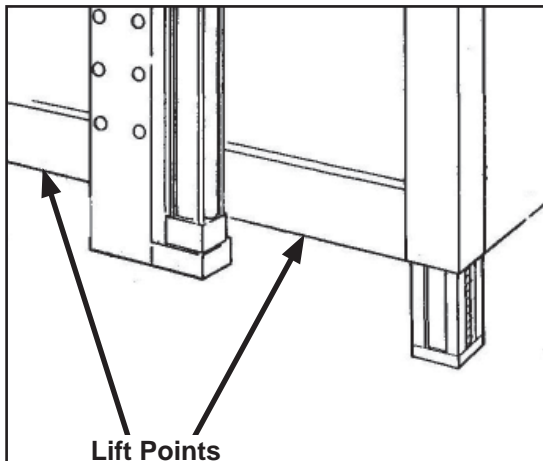

Figure 7-2
1. Lift the machine with belts or ropes paying attention to place the belts in the points (**Figure 7-2**).